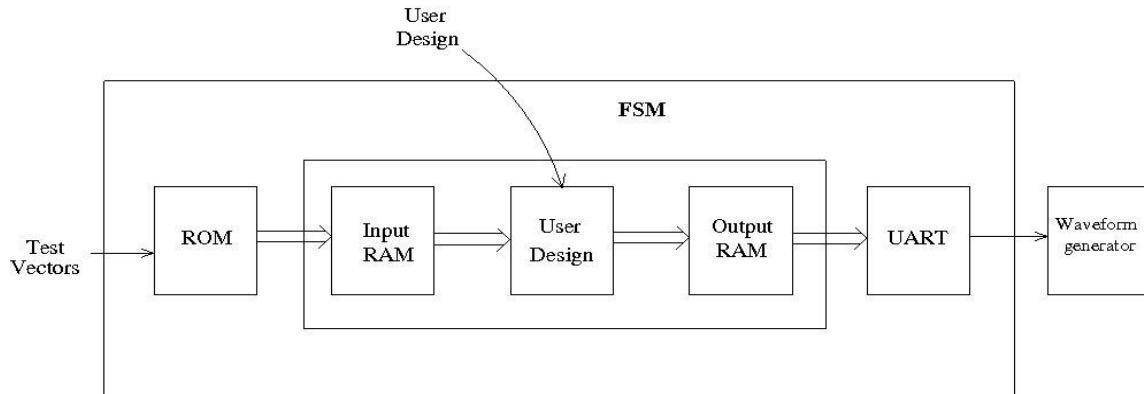

Fig. 1.2 – FSM system
- This Automation FSM system is designed using Verilog HDL and will thus have the Verilog modules ROM.v, INPUT\_RAM.v, USER\_DESIGN\_WRAPPED.v, OUTPUT\_RAM.v, UART.v and FSM.v. Named as per the blocks shown in fig. 1.2.